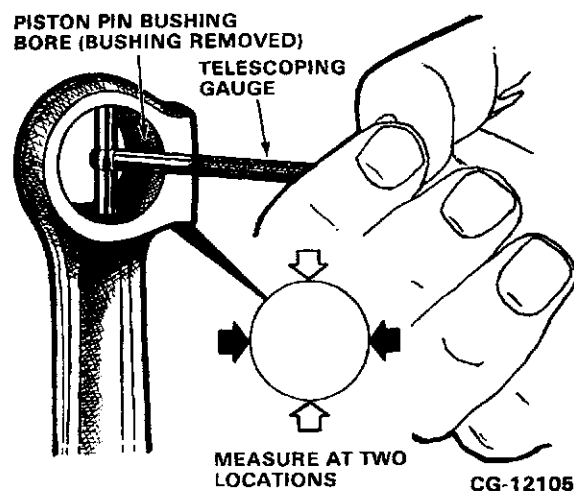

Figure 6.23. Check Connecting Rod Piston Pin Bushing Bore Diameter
5. Clean the connecting rod piston pin bushing bore thoroughly and visually inspect for defects. Using a telescoping gauge and a micrometer, measure the connecting rod piston pin bushing bore diameter at two locations. Refer to **Figure 6.23**. If out of "SPECIFICATIONS", replace the connecting rod.